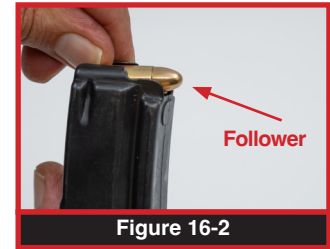

Figure 16-2
2. Ensure that you are using the proper caliber ammunition for your firearm. Place rim of first cartridge on top of follower (Figure 16-2) then push the cartridge down on the follower until the lips capture the round. Load successive rounds by pushing cartridge down on previously loaded cartridge. Use only clean, dry, original, high quality, commercially, manufactured ammunition. Using reloaded ammunition may void warranty.